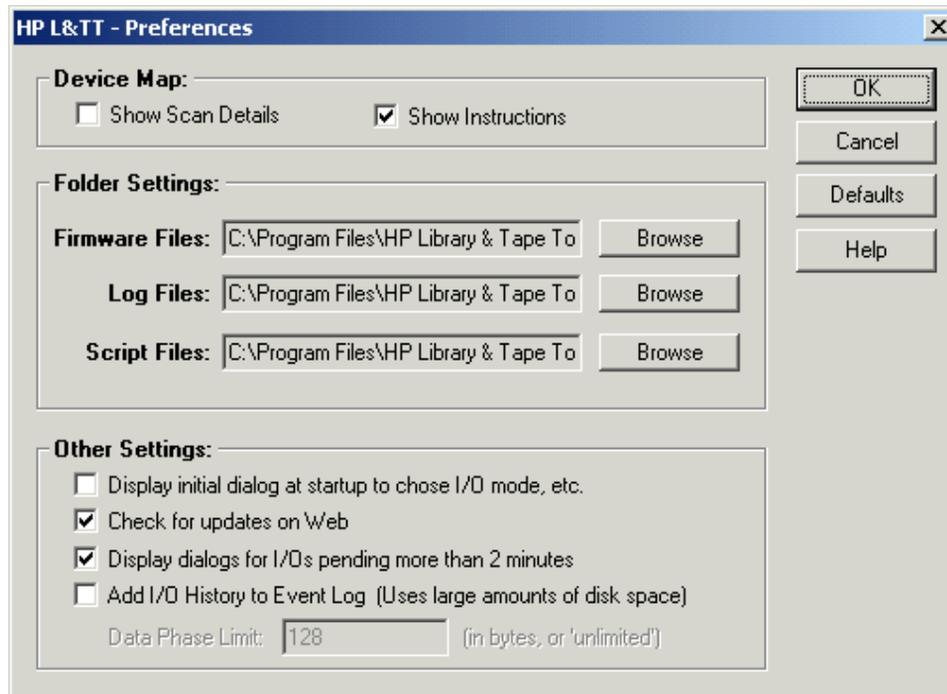

Figure 17: L&TT preferences dialog box (default settings shown)
- **GUI** Select **Preferences** from the **Options** menu. The preferences dialog is displayed as shown in Figure 17.